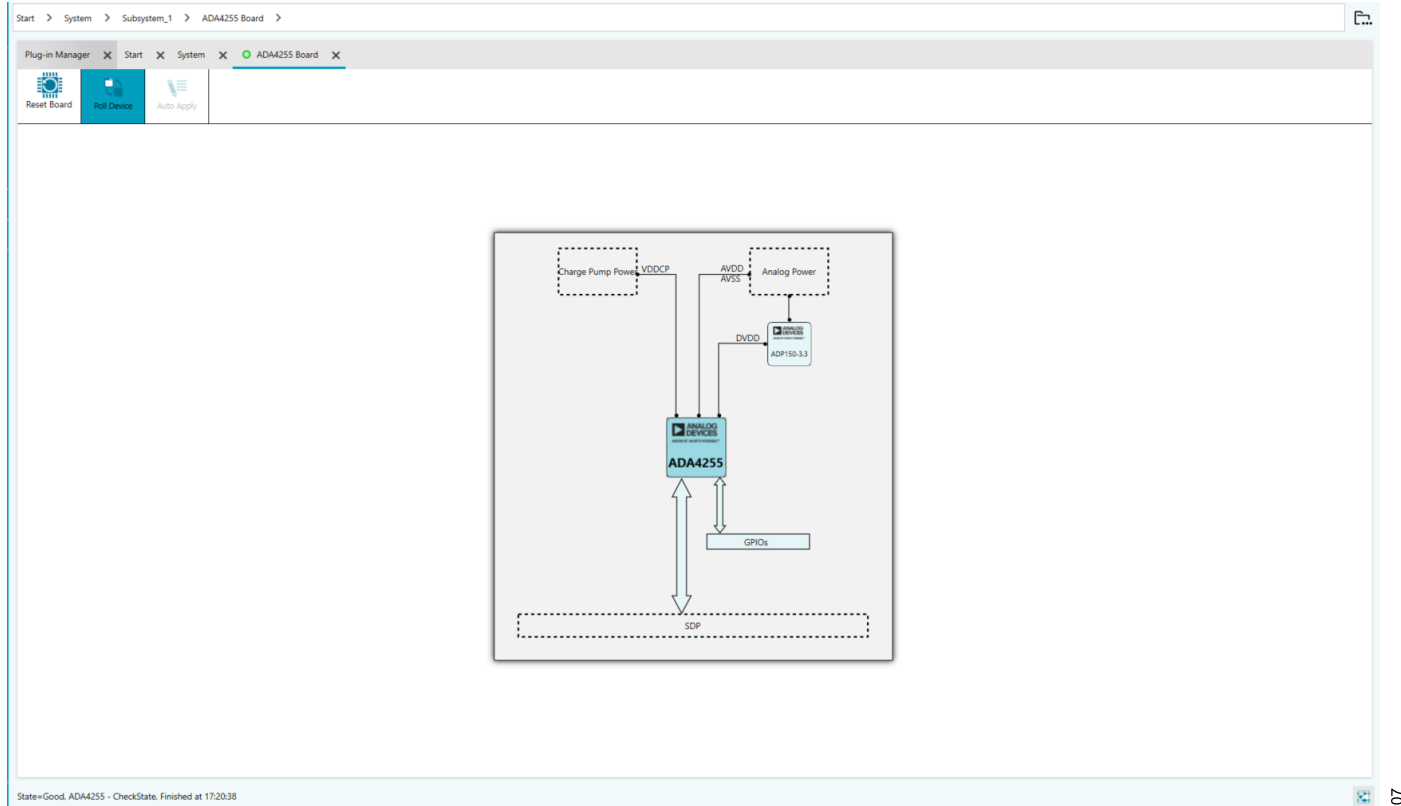

Figure 7. Board View
5. Double-click on the ADA4255CP-EBZ plug-in to open the board view shown in Figure 7. Ensure that the ADA4255CP-EBZ is connected, which is indicated by the green light next to the **ADA4255 Board** tab.